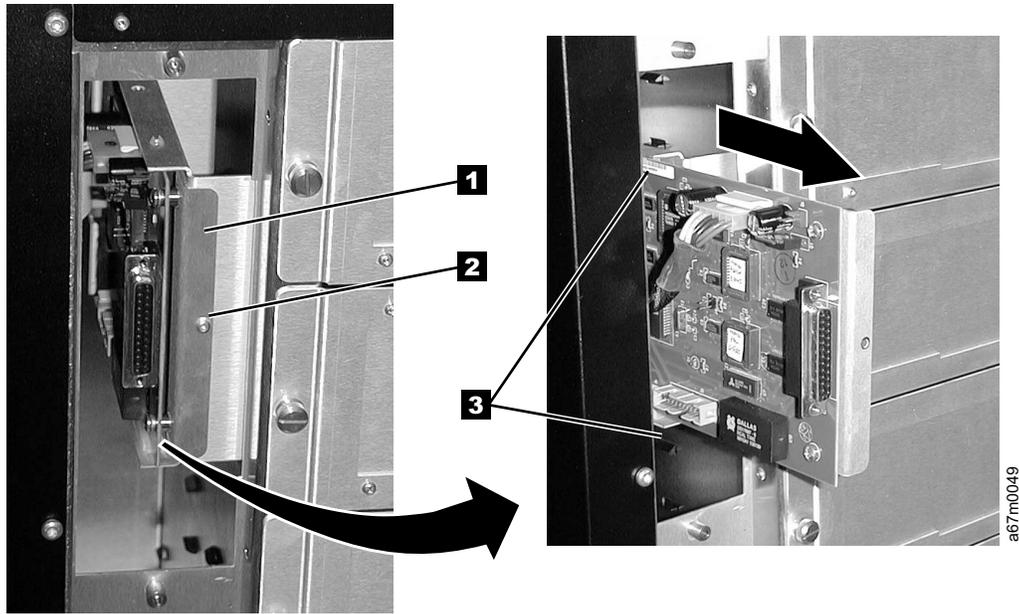

Figure 7-26. Main Board Removal and Replacement
See Figure 7-26 on page 7-31 for locations of components in the following procedure.
5. (See Figure 7-26 on page 7-31). Remove the T8 Torx screw **2** holding the Main Controller Board to the Library chassis. Now slide the Main Controller Board partially out of the guiding tracks **3**.